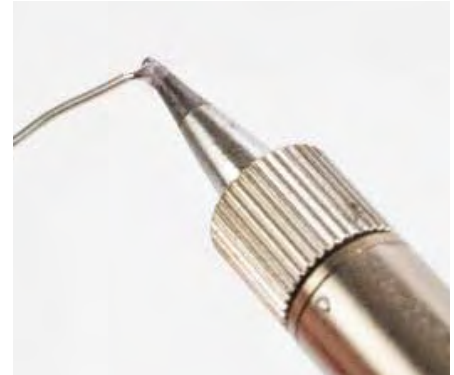

Figure 3
- ❑ Tin the tip of the soldering iron by holding the solder to the tip of the hot iron, coating the tip with solder until it is shiny. (Figure 3)